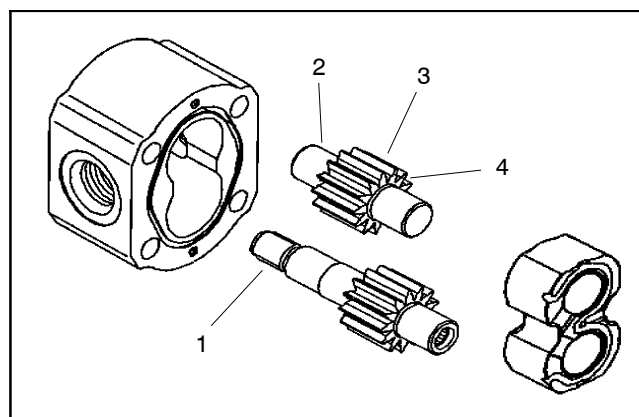

Figure 89
3. Inspect drive gears and idler gears for the following (Fig. 89):